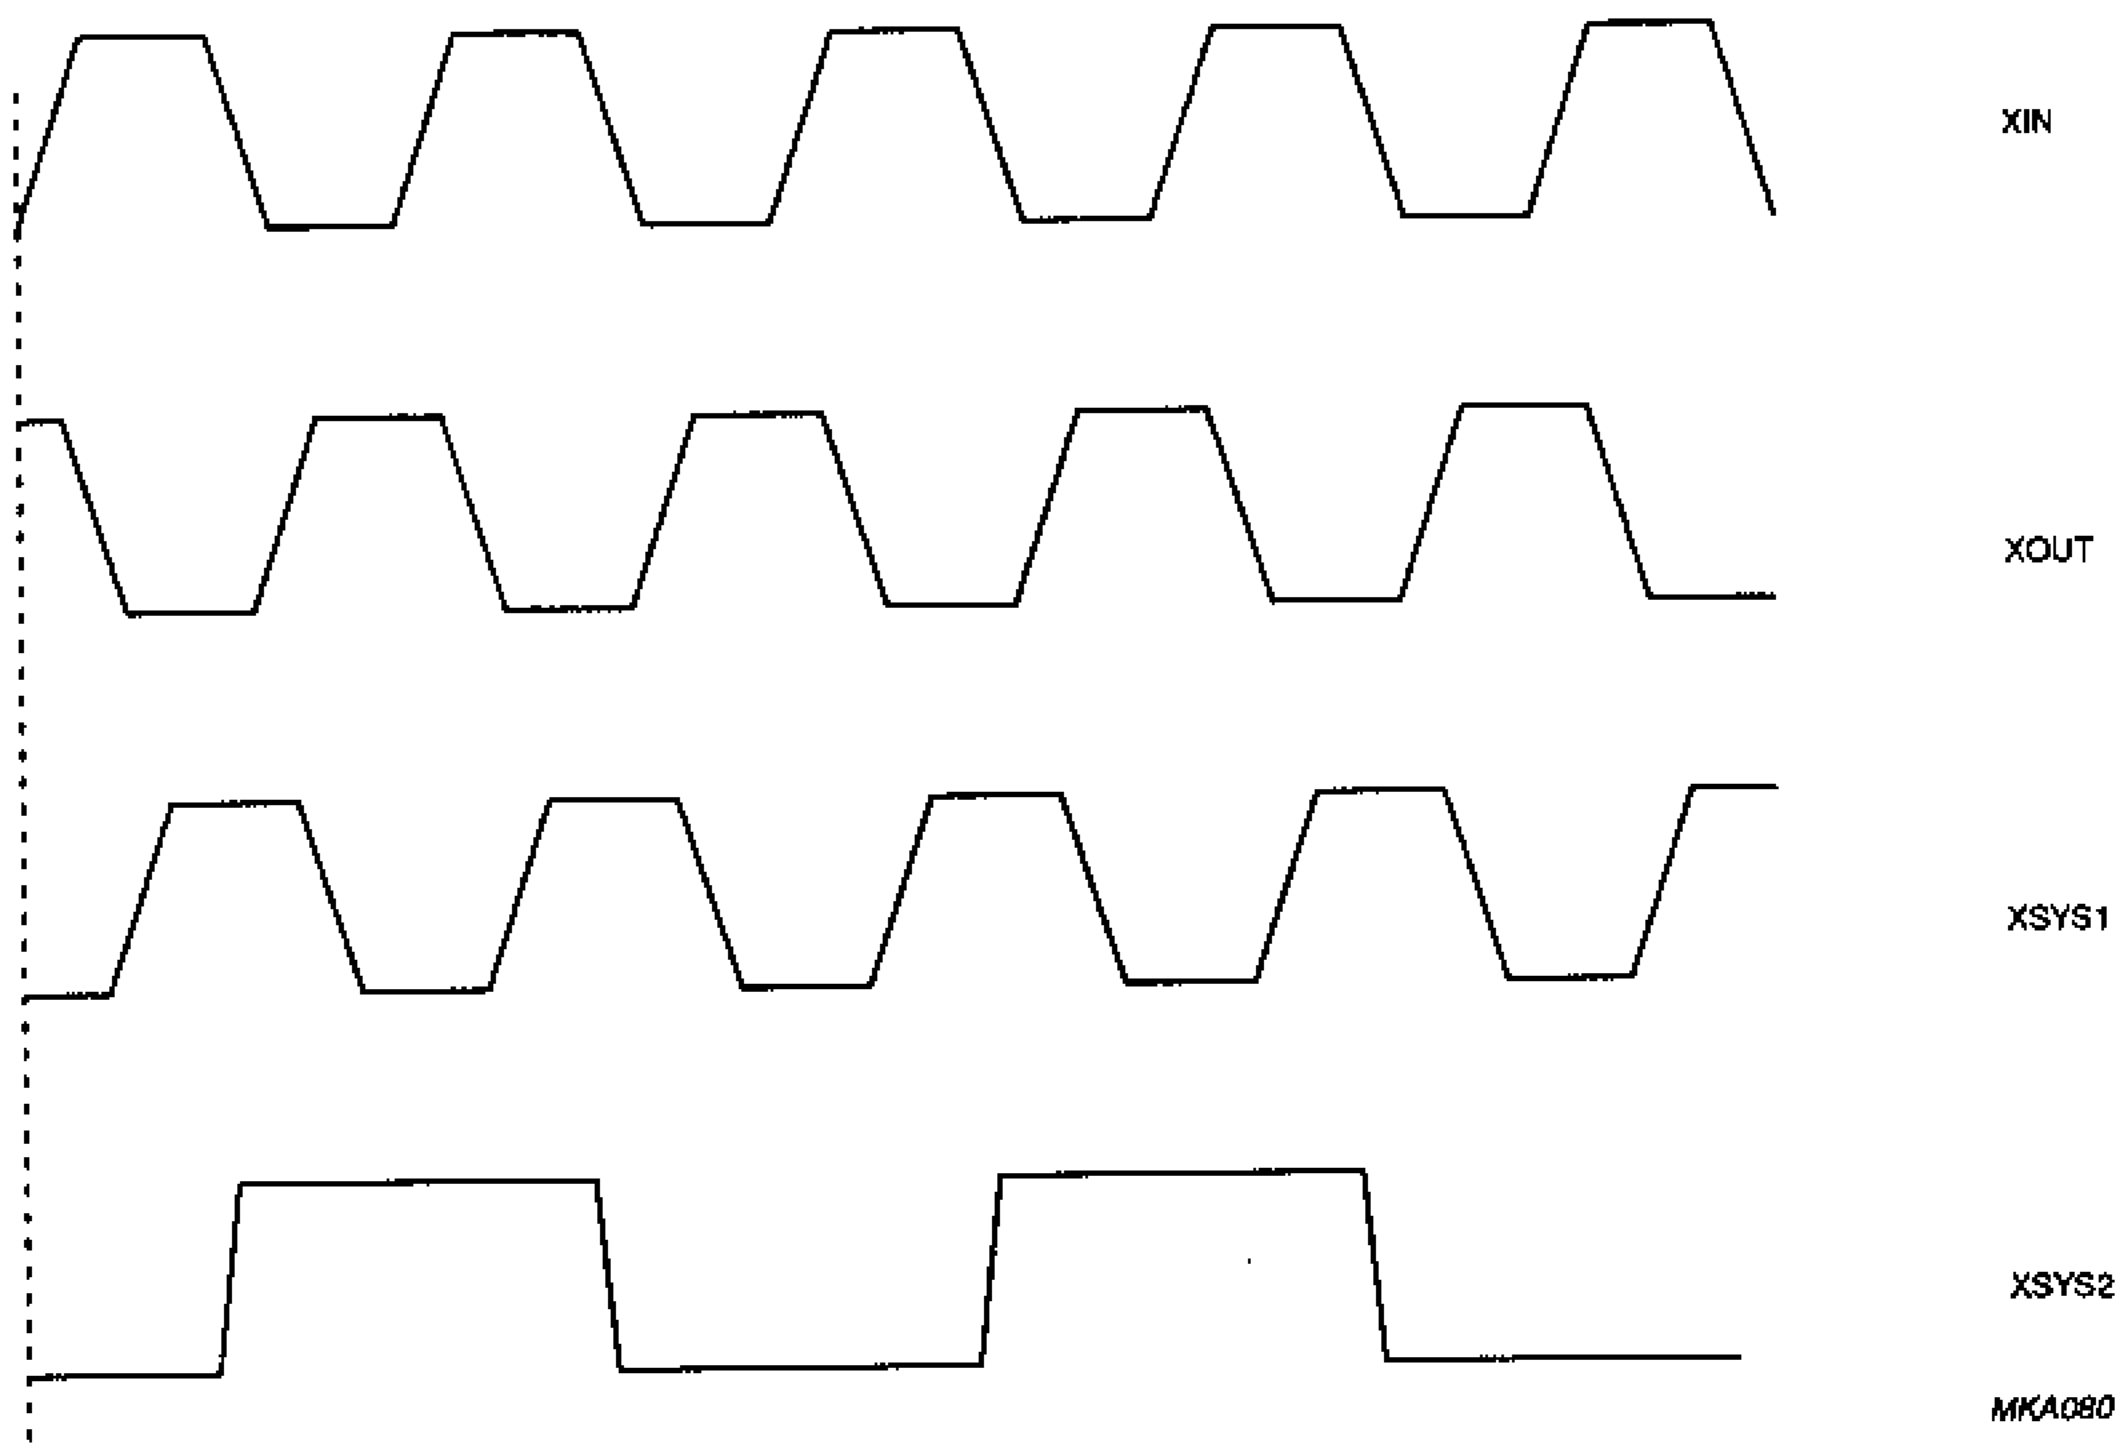

Fig.10 Relative clock timing.
- Output times are measured with a capacitive load of 35 pF. XSYS2 is half the master clock frequency. See Fig.10 for relative clock timings.